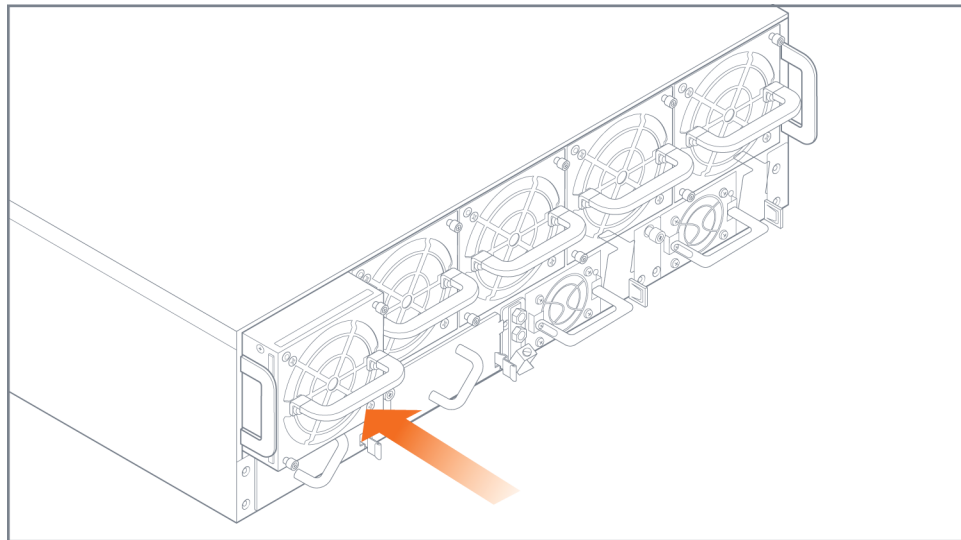

Figure 4-9: Fan Module Insertion
1. Place the working fan module into the empty fan module slot and slide it in until it is flush with the chassis rear and will not slide in any further. Refer to Figure 4-9 on page 78.